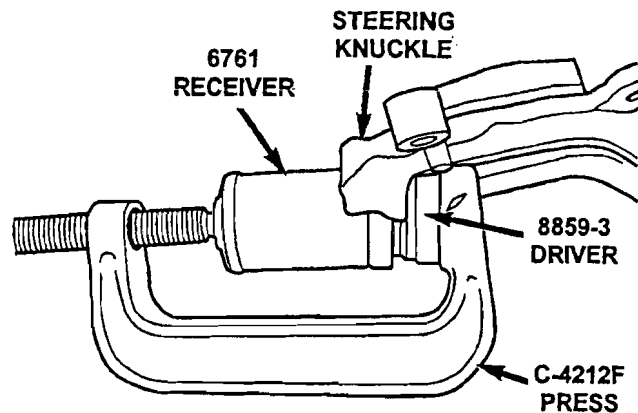

Figure 7
19. Install the new ball joint into the steering knuckle and press into position using special tools C-4212-F (press), 8859-3 (driver) and 6761 (receiver) (Figure 7).